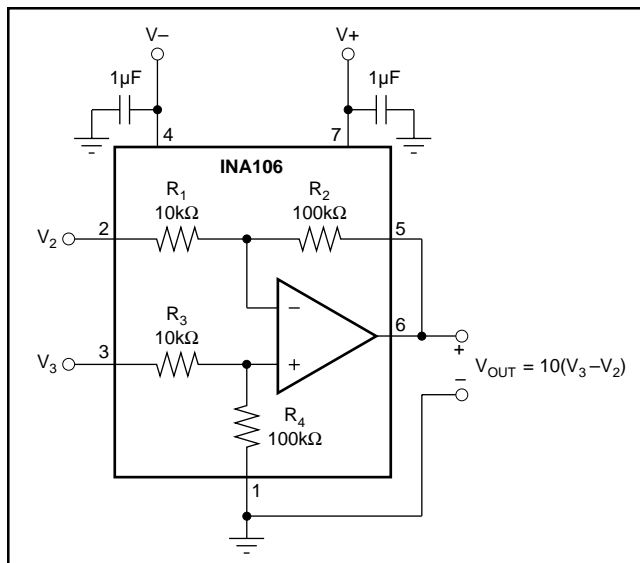

FIGURE 1. Basic Power Supply and Signal Connections.
NOTES: (1) Connected as difference amplifier (see Figure 1). (2) Nonlinearity is the maximum peak deviation from the best-fit straight line as a percent of full-scale peak-to-peak output. (3) With zero source impedance (see "Maintaining CMR" section). (4) Includes effects of amplifiers's input bias and offset currents. (5) Includes effect of amplifier's input current noise and thermal noise contribution of resistor network.
Figure 1 shows the basic connections required for operation of the INA106. Power supply bypass capacitors should be connected close to the device pins as shown.
Referring to Figure 1, the CMR depends upon the match of the internal R_4/R_3 ratio to the R_1/R_2 ratio. A CMR of 106dB requires resistor matching of 0.005%. To maintain high CMR over temperature, the resistor TCR tracking must be better than 2ppm/ $^\circ\text{C}$. These accuracies are difficult and expensive to reliably achieve with discrete components.